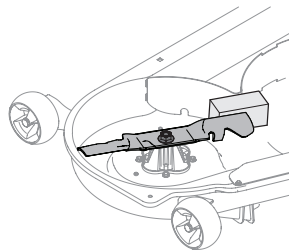

Figure 2
3. Stabilize one of the cutting blades with a blade lock tool or a block of wood. See Figure 2.